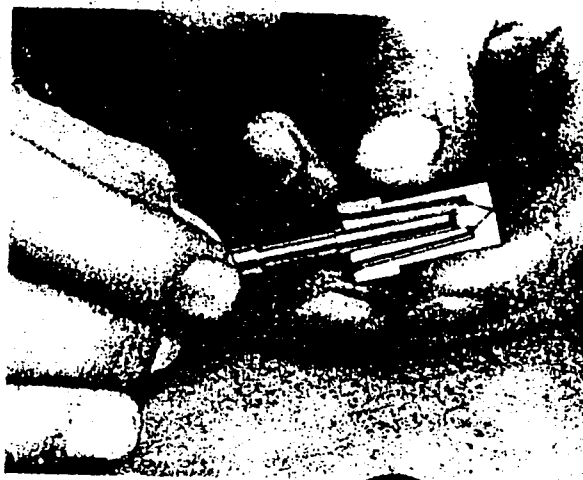

FIG. 129
4. With the nozzle body seat scrape (ET.070) clean all carbon from the valve seatings by pressing the tool on to the seat and rotating the nozzle body by hand, see Fig. 129.